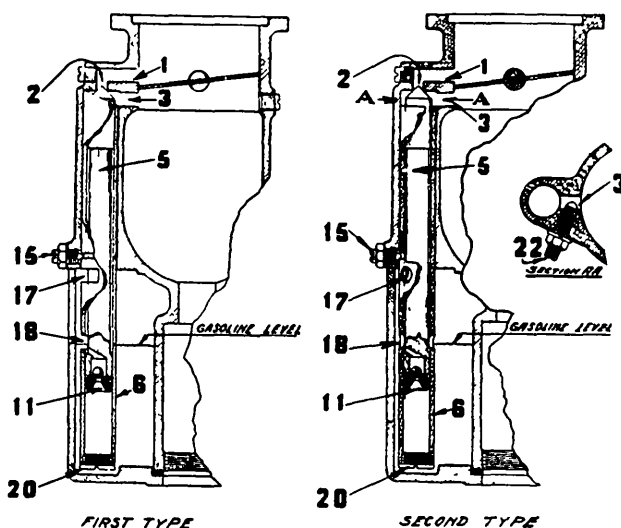

Fig. 2
The decelerating device, Fig. 2, increases the idling speed temporarily after the throttle has been returned to the idling position from a part or wide open throttle. In other words, if the car is driven along say at five miles per hour and the throttle is suddenly kicked open to 10 or 15 miles per hour or to any speed, then suddenly decelerated back to idle, the idling speed will be increased considerably for about 10 seconds when the decelerating device will close off allowing the motor to idle at the normal speed. This action gives a very positive idle under any condition.
The first carburetors with this decelerating device used the type shown on the print marked "first type," Fig. 2. After this first lot, the device was changed slightly and is as shown on the print showing the "second type."
Referring to the first type, the main points of the decelerating device are the cylinder or tube (6) and the plunger (5) Fig. 2. The tube fits in its bearing in the body and is held in place with a set screw (15). The upper end of the tube is bevelled so that by turning the tube the passage through hole (3) can be made large or small. The slot (18) is slightly below the gasoline level so that fuel can run into the tube. The slot (17) is at the body line and serves as an air opening so that no gasoline can be sucked up into the upper part of the tube. The cap (20) shuts off the lower end of the tube.
To take out the decelerating device, remove the bowl and loosen up the screw (15) Fig. 2. Before doing this, mark the position of the tube in the body by scratching a line on both tube and body so that the tube will go back into the same position.
In this type, the tube (6) is held in one position in the carburetor body, see Fig. 2. Since the screw (15) registers with a hole in the tube, the tube is also cut off square at the top.